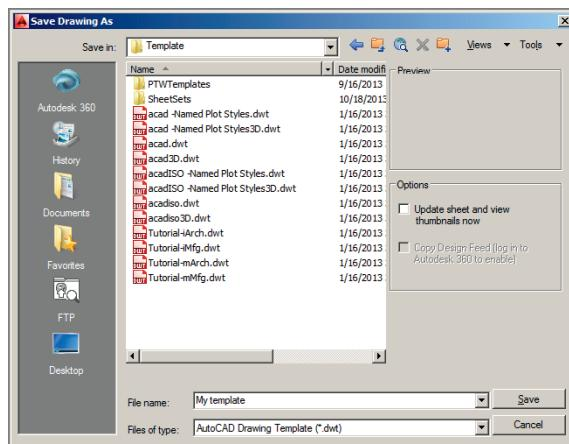

FIGURE 14.7 Saving a new drawing template
5. Click the Save As button in the Quick Access toolbar. Change the Files Of Type drop-down in the Save Drawing As dialog box that appears to AutoCAD Drawing Template (*.dwt). Type **My template** in the File Name text box (see Figure 14.7). Click Save.